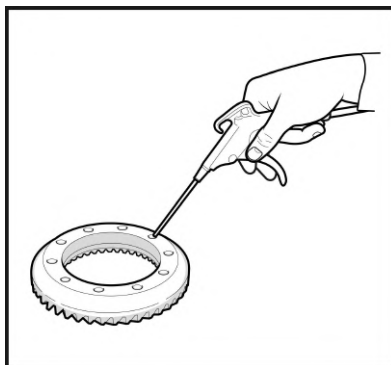

Fig. 15
2.4 Blow the mounting surface and the ring gear threaded holes clean with compressed air. (Fig. 15)